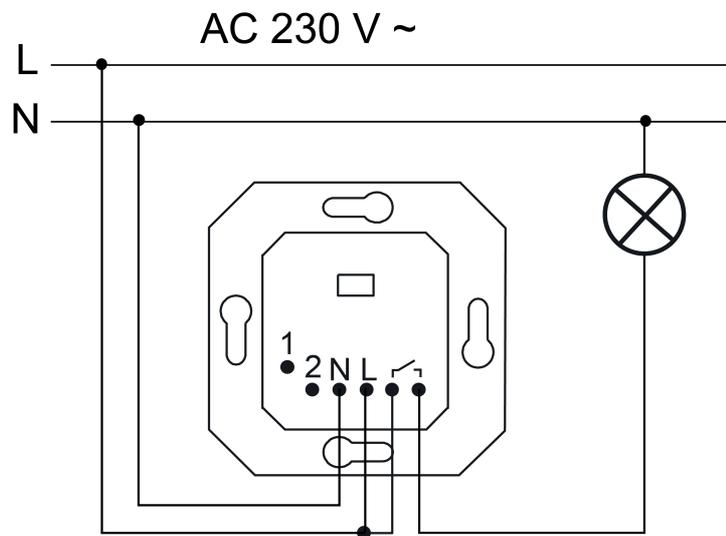
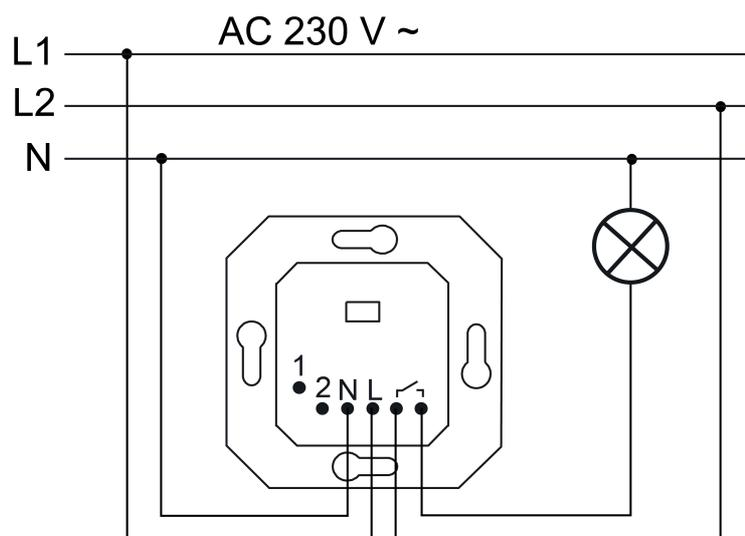

Figure 2: Connection example to a conductor
Figure 3: Connection example to two conductors
- Connect insert and load according to connection examples (Figure 2), (Figure 3).